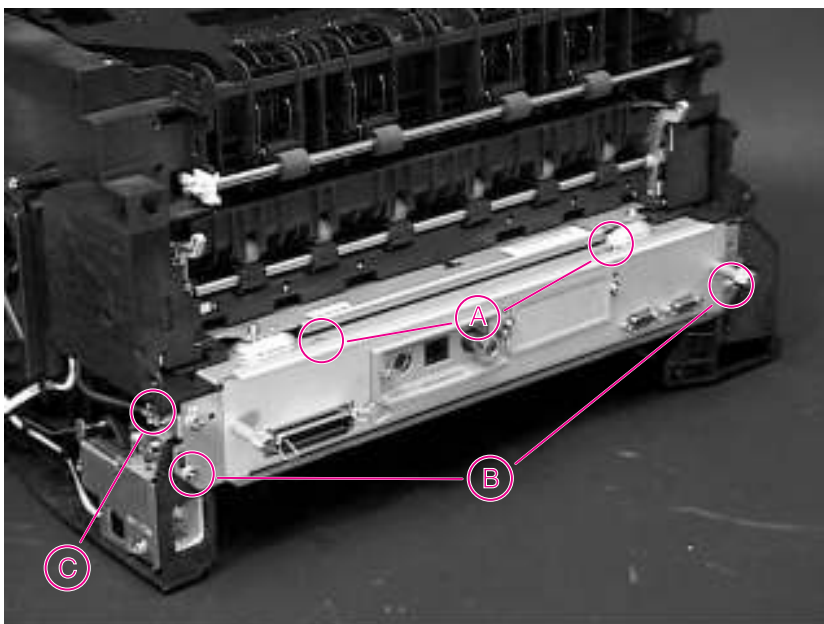

Figure 6-37 DC Controller Assembly (rear view of printer)
- 4** Remove five screws on the back side of the chassis (Figure 6-37). Two machine screws (A) are located on the top surface of the metal housing, one machine screw (C) has a lock washer and a ground wire, and two self-tapping screws (B) are located at the bottom of the DC Controller Assembly.